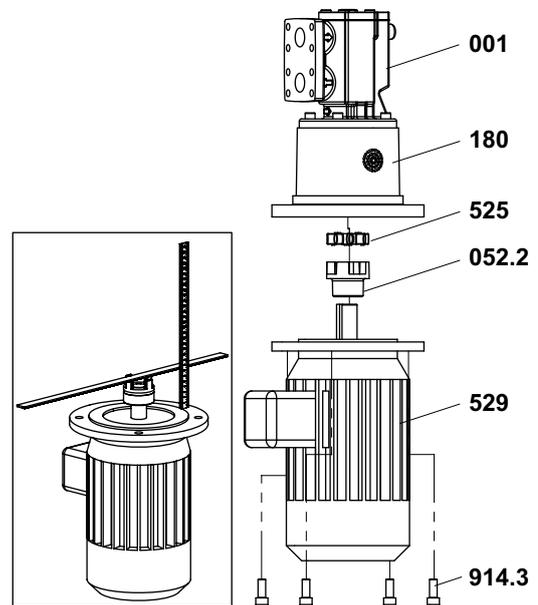

Fig. 6
4. Mount the motor-side coupling half 052.2 on the shaft end of the motor, see Fig. 6.